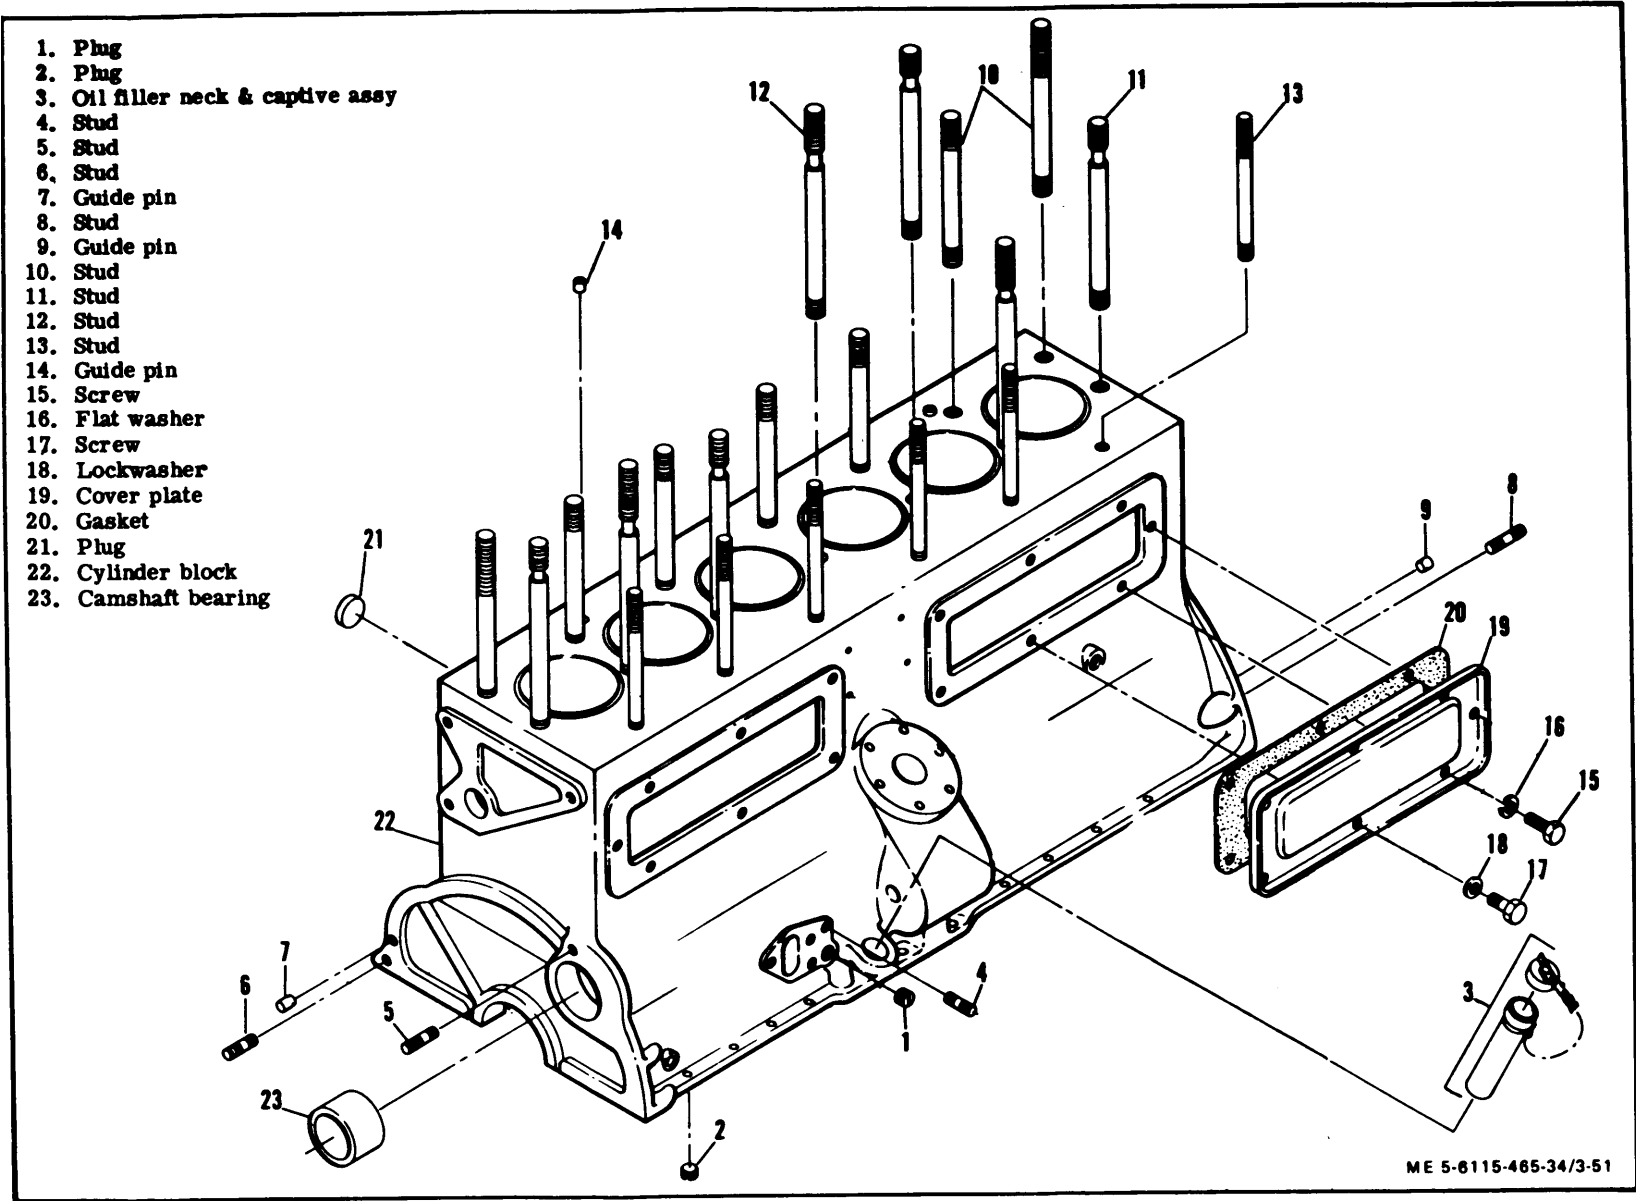

Figure 3-51. Cylinder Block Assembly, Exploded View
(1) Remove engine assembly (paragraph 2-6).
(2) Remove timing gears and cover (paragraph 3-50).
(3) Remove flywheel and flywheel housing (paragraph 3-49).
(4) Remove cylinder head and rocker arm assembly (paragraph 3-53).
(5) Remove camshaft and bearings (paragraph 3-54).
(6) Remove timing gear and housing (paragraph 3-50).
(7) Remove crankshaft, connecting rods, and pistons (paragraph 3-55).
(8) Remove plugs (1 and 2, figure 3-51).
(9) Do not remove oil filler neck and captive cap assembly (3) or stud (4) unless inspection reveals damage.
(10) Do not remove studs (5 and 6) or guide pin (7) unless inspection reveals damage.
(11) Do not remove studs (8) and guide pin (9) unless inspection reveals damage.
(12) Do not remove studs (10, 11, 12 and 13) or guide pin (14) unless inspection reveals damage.
(13) Remove screws (15), flat washers (16), screws (17), lockwashers (18) to remove cover plate (19) and gasket (20) from cylinder block (22).
(14) Do not remove plug (21) from cylinder block (22) unless replacement is necessary.